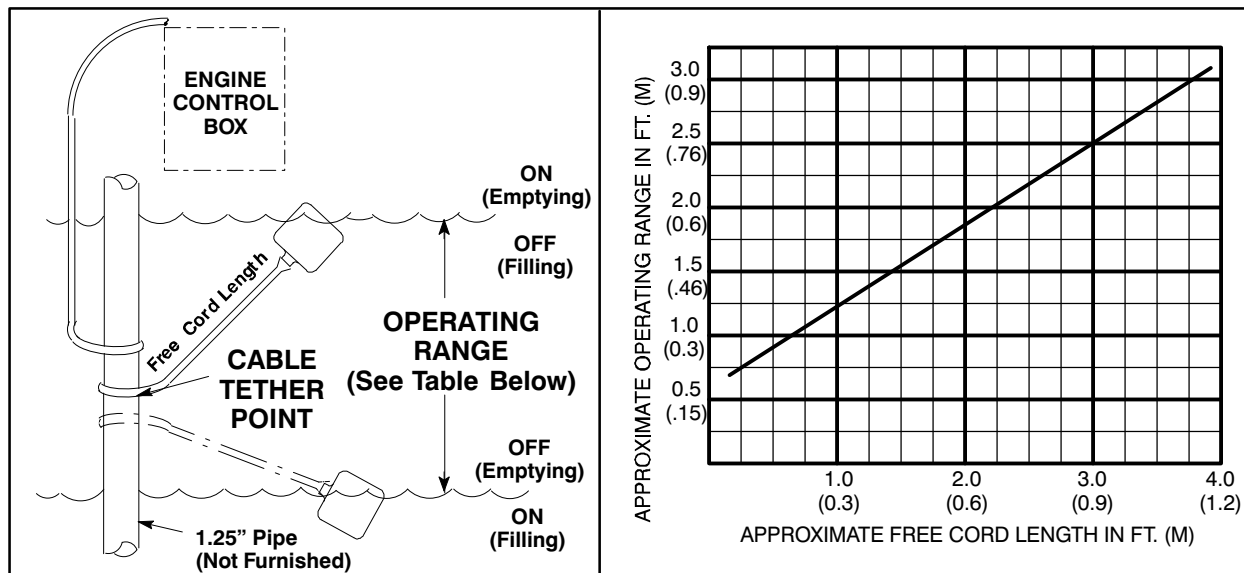

Figure 5. Float Switch Data
- d. Refer to Figure 5 for additional float switch data.